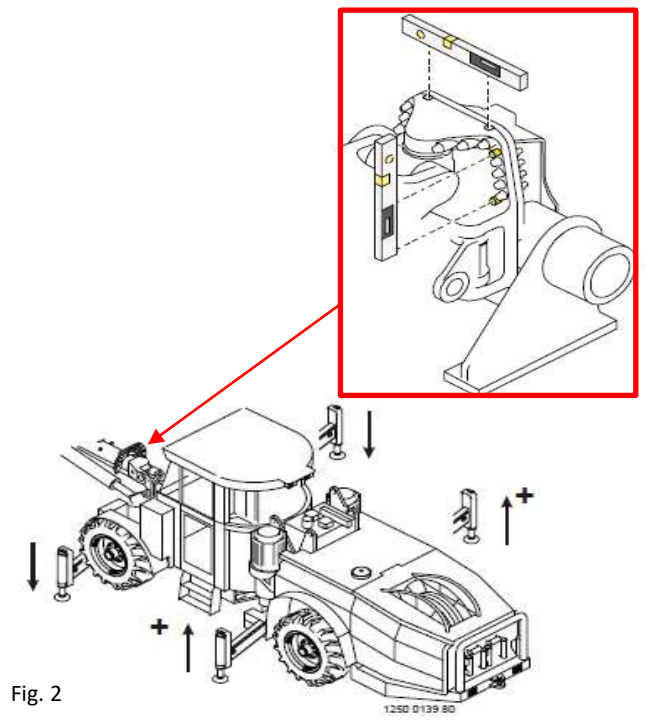

Fig. 2
- **Step 2.** Place level on the boom mantle holder side to side as per fig. 2, level machine using manual clino/level with front jacks.
- **Step 4.** Place level on the boom mantle holder, in a vertical position as per fig. 2 across the top of mounting cap screws, ensuring they are clean, and level machine with front jacks and rear jacks.